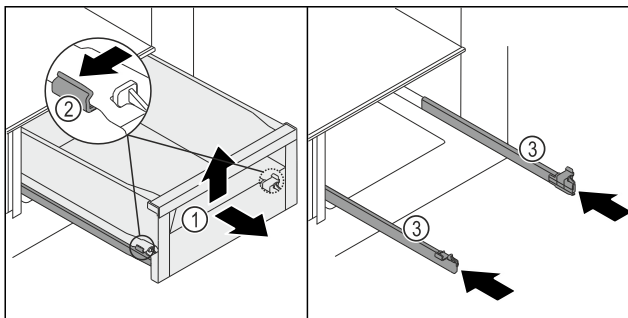

Fig. 210
- ▶ Pull the drawer Fig. 210 (1) out as far as it will go.
- ▶ Press the left and right clamps Fig. 210 (2) on the rails slightly outwards at the same time.
- ▶ Drawer Fig. 210 (1) detaches from the rails.
- ▶ Lift up the drawer Fig. 210 (1) forwards.
- ▶ Remove the drawer Fig. 210 (1) forwards.
- ▶ Push in the rails Fig. 210 (3).